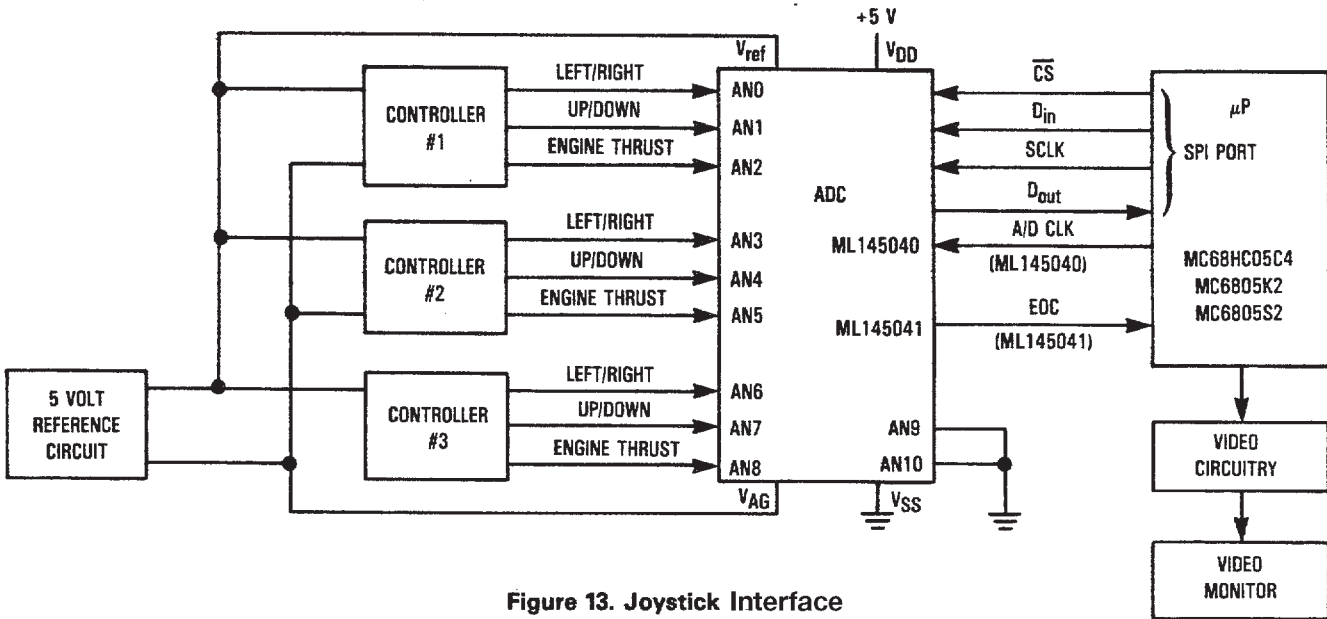

Figure 13. Joystick Interface
Figure 13 illustrates how the ML145040/ML145041 is used as a cost-effective means to simplify this type of circuit design. Utilizing one ADC, three controllers are interfaced to a CMOS or NMOS microprocessor with a serial peripheral interface (SP) port. Processors with National Semiconductor's MICROWIRE serial port may also be used. Full duplex operation optimizes throughput for this system.
Although not indicated in Figure 13, the V_{ref} and controller output lines may need to be shielded, depending on their length and electrical environment. This should be verified during prototyping with an oscilloscope. If shielding is required, a twisted pair or foil-shielded wire (not coax) is appropriate for this low frequency application. One wire of the pair of the shield must be V_{AG} .